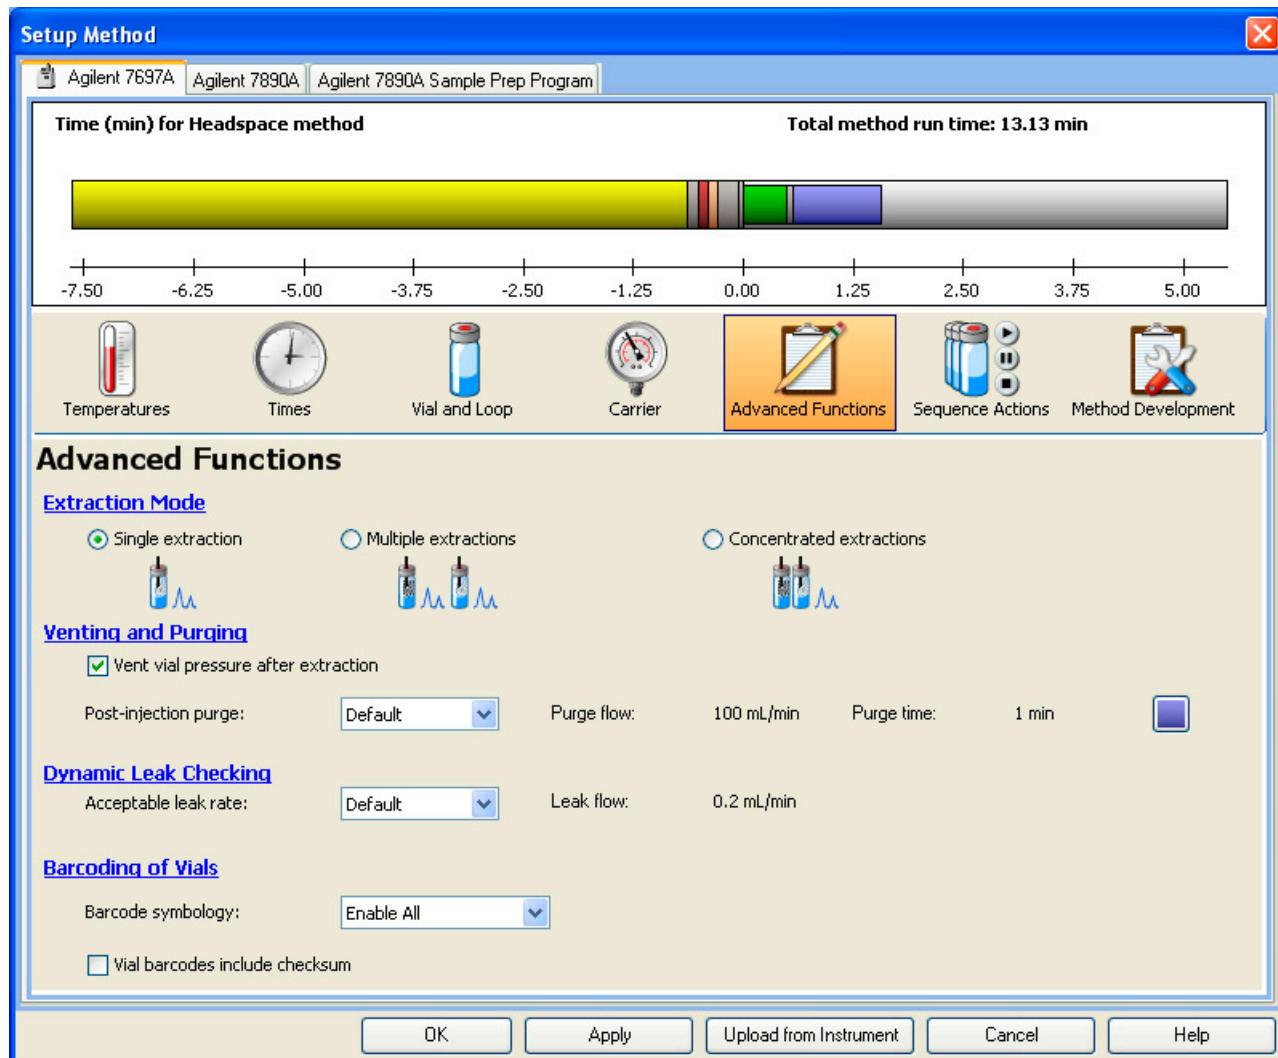

Figure 18 Setting the advanced functions
- 7 Select the **Advanced Functions** icon and set the parameters shown in Figure 18.
The bar code reader settings shown in Figure 18 only appear if your HS has a bar code reader installed.